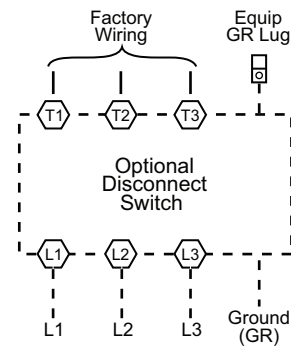

Fig. 47 — Power Wiring Connections
Size wire based on MCA (Minimum Circuit Amps) on the unit informative plate. See Fig. 47 for power wiring connections to the
- 3. Install power lines to terminal connections as shown in Fig. 47.